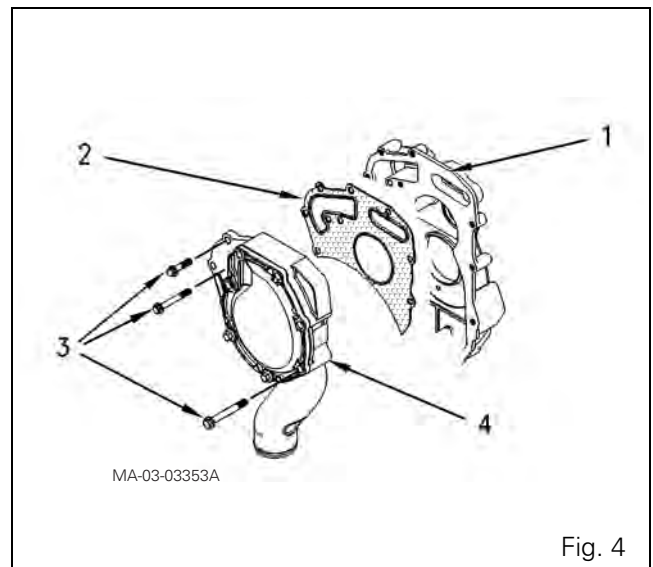

Fig. 4
17. Remove the screws (3) from the pump (4) (Fig. 4).
19. Take off the water pump. Take off and discard the seal (2) (Fig. 4).